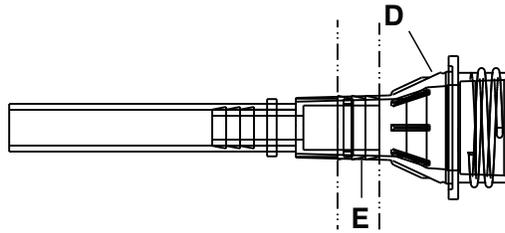

Figure 7 – Install the cable tie to the valve body
12. Using a zip tie gun, center the supplied cable tie (E) around the valve body (D) and the reduction coupler fitting (Figure 7).
14. Using a zip tie gun, center the supplied cable tie (E) around the valve body (D) and the reduction coupler fitting (Figure 7).